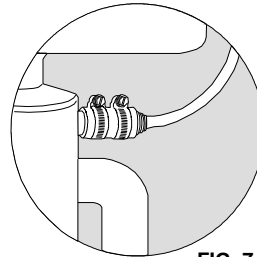

FIG. 7
4. Follow instructions 5,6, & 10 of Configuration – A to complete the installation. (Only the “cut branch” will be used in instruction 6, discarding the leftover section of adapter... See Fig. 7)